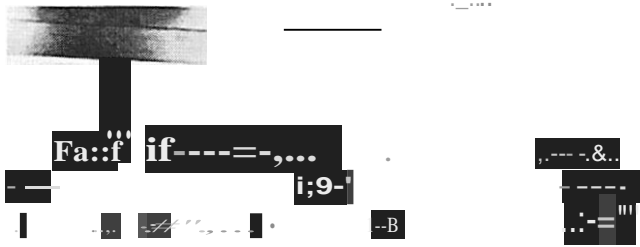

Figure 1. Cable Attachment, Full Throttle
2. Hold cable vertically so that clevis yoke pin can be placed thru round brass cable anchor slots. Cable should be below clevis. (Figure 1)
4. Push and turn knurled pin turn after it is extended through slot to anchor it. (Figure 1)
stop blocks at each end of slot before control lever reaches limit of its travel in control box. (Figure 1) If this adjustment is not made, either full forward throttle operation or full reverse throttle operation will not be obtainable.